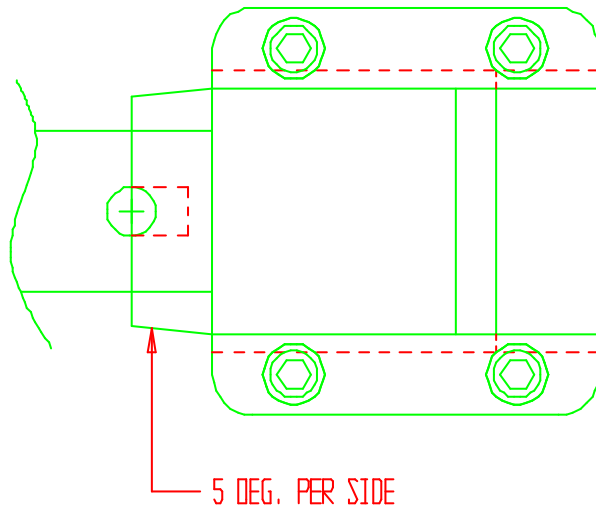

figure 4-2
- 4.3.5 Slides to have a 5 degree lock angle (per side) to assure shut off and proper location. See figure 4-2.